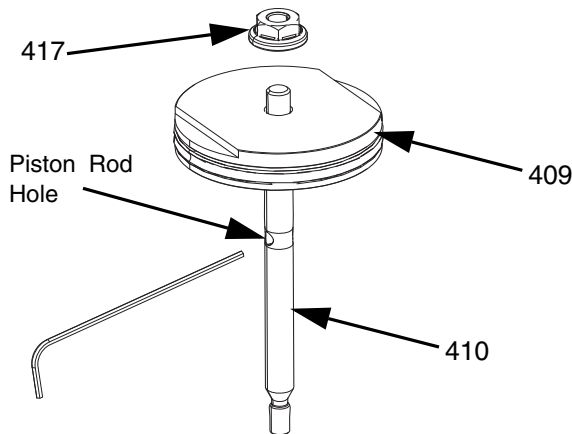

FIG. 17
6. For valves with ball-seat tip assemblies (FIG. 17):
- a. Place an Allen key in the through hole in the piston rod (410) and unthread the nut (417) using a 7 mm socket or wrench.